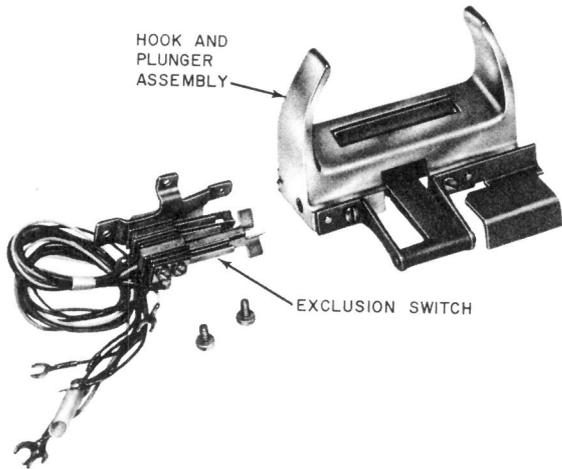

Fig. 10—D-180383 Kit of Parts
- 3.12** Install the exclusion feature (D-180383 Kit of Parts, Fig. 10 and 11) in the 526B telephone set as follows: